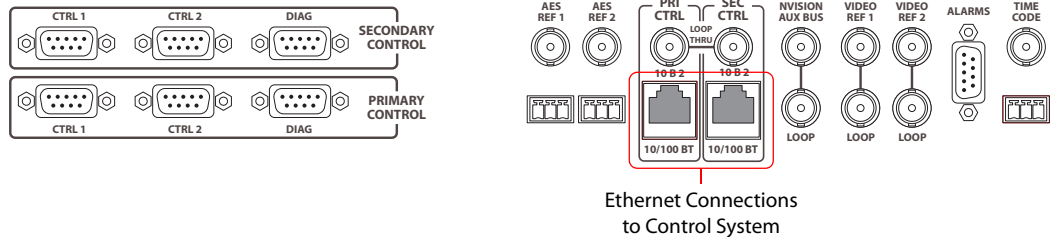

Figure 3-9. Ethernet Connections to Control System (Rear View)
- 1 Locate the Ethernet connections on the rear of the router, as shown in Figure 3-9. Ethernet control connections are labeled 'PRI CTRL' and 'SEC CTRL'.